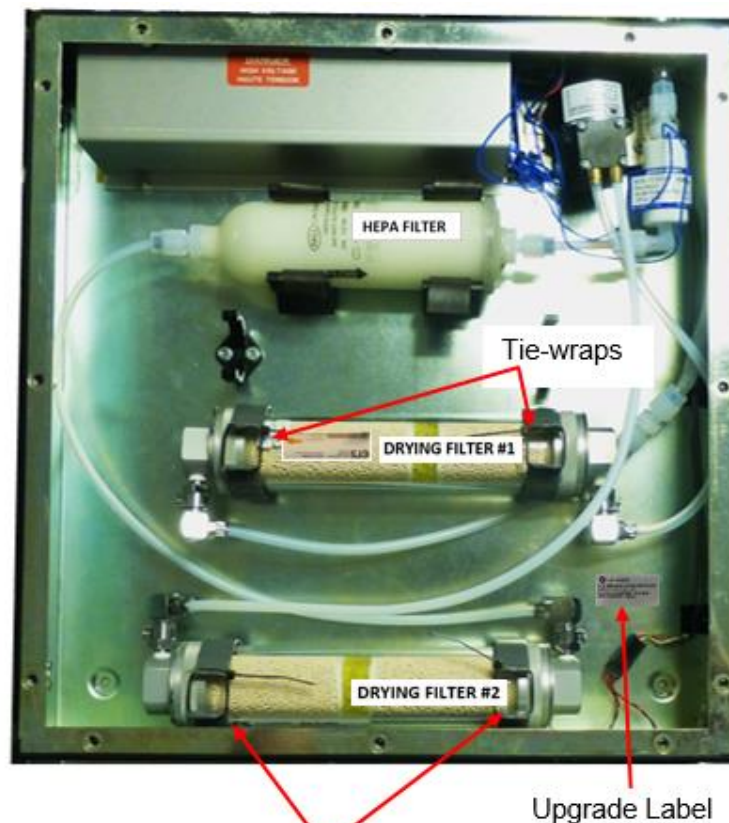

Figure 6
- Attach the second drying filter in the central position clips and orientate as shown in **Figure 6**, connecting the elbow fittings at both ends using push and click method
- Utilize (4) tie-wraps provided, to hold the new filter clips together, securing them in position. **Figure 6**